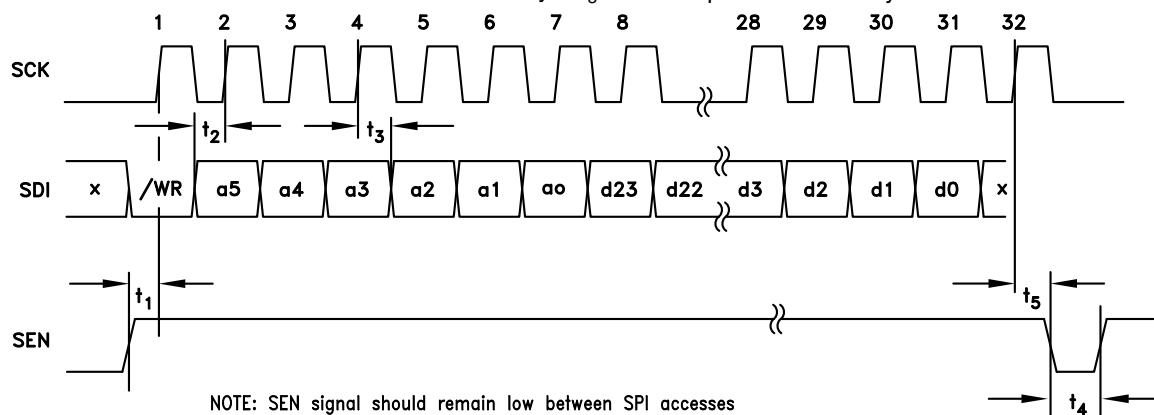
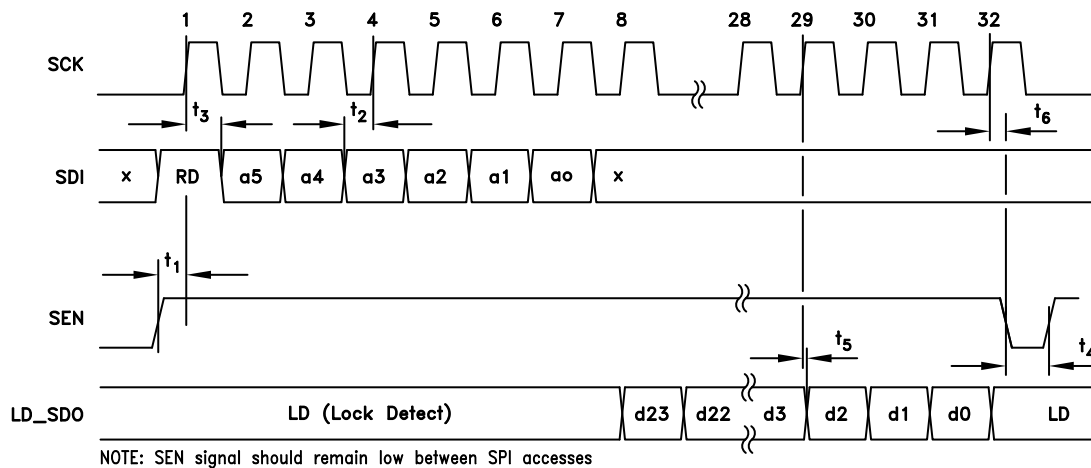

Figure 24. HMC Mode - Serial Port Timing Diagram Write
Figure 25. HMC Mode - Serial Port Timing Diagram - READ
The HMC Mode protocol, shown in Figure 24 and, Figure 25 is designed for a 4 wire interface with a fixed protocol featuring
A typical HMC Mode WRITE cycle is shown in Figure 24.
A typical HMC Mode READ cycle is shown in Figure 25.
- The Master (host) asserts both SEN (Serial Port Enable) and SDI to indicate a READ cycle, followed by a rising edge SCLK. Note: The Lock Detect (LD) function is usually multiplexed onto the LD_SDO pin. It is suggested that LD only be considered valid when SEN is low. In fact LD will not toggle until the first active data bit toggles on LD_SDO, and will be restored immediately after the trailing edge of the LSB of serial data out as shown in Figure 25.
- The slave (HMC1033LP6GE) reads SDI on the 1st rising edge of SCLK after SEN. SDI high initiates the READ cycle (RD)
The HMC1033LP6GE communicates with the internal VCO subsystem via an internal 16 bit VCO Serial Port, (e.g. see Figure 25). The internal serial port is used to control the step tuned VCO and other VCO subsystem functions, such as RF output divider / doubler control and RF buffer enable.